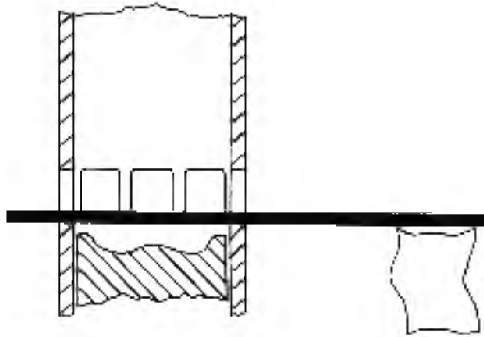

Fig. 7-15 - "Stop-Bar" Inserted Through Cylinder Ports
3. Insert a brass "stop-bar" (minimum 1/2" hexagonal or square preferred) of suitable length through the ports of the No. 1 cylinder so that the end of the bar passes through a port on the opposite side of the cylinder, Fig. 7-15.